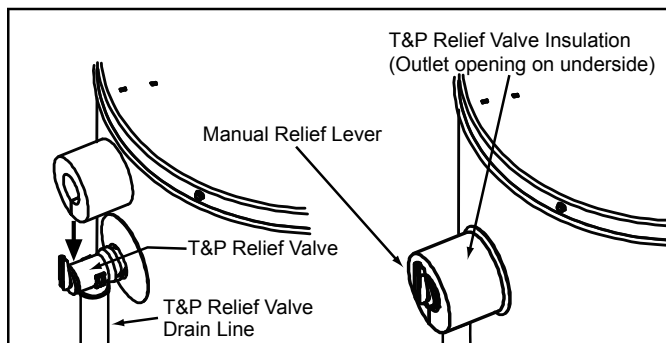

Figure 10
Locate the temperature and pressure relief valve on the water heater (also known as a T&P relief valve) (see Figure 10).
2. Spread the slit open and fit the insulation over the T&P relief valve (see Figure 10). Apply gentle pressure to the insulation to ensure that it is fully seated on the T&P Relief Valve. Once seated, secure the insulation with duct tape, electrical tape, or equivalent.
**Important:** The insulation and tape must not block the discharge opening or hinder access to the manual relief lever (Figure 10). Ensure a discharge pipe is installed into the T&P valve discharge opening per the instructions in this manual.